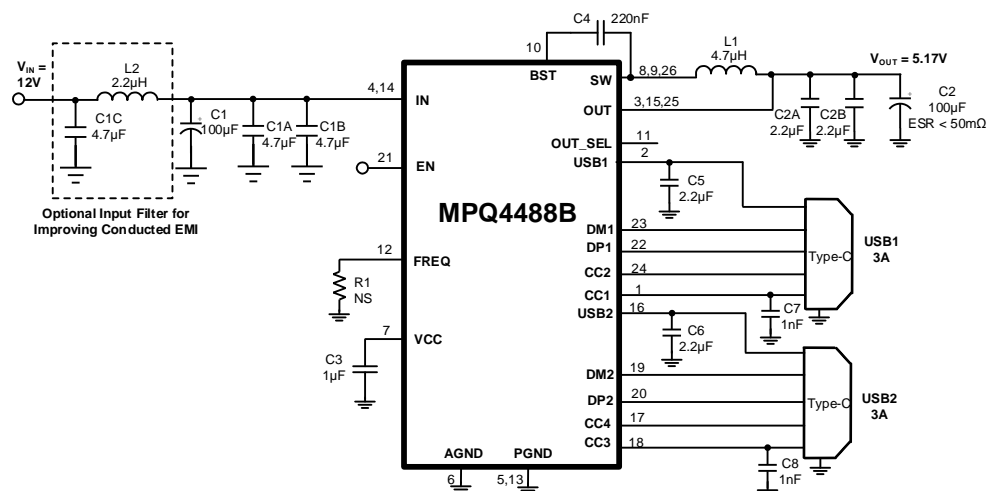
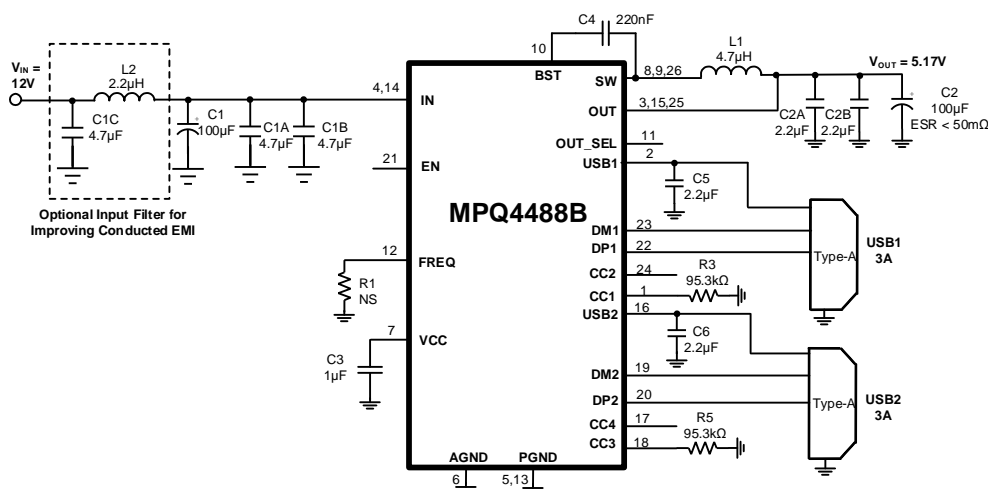
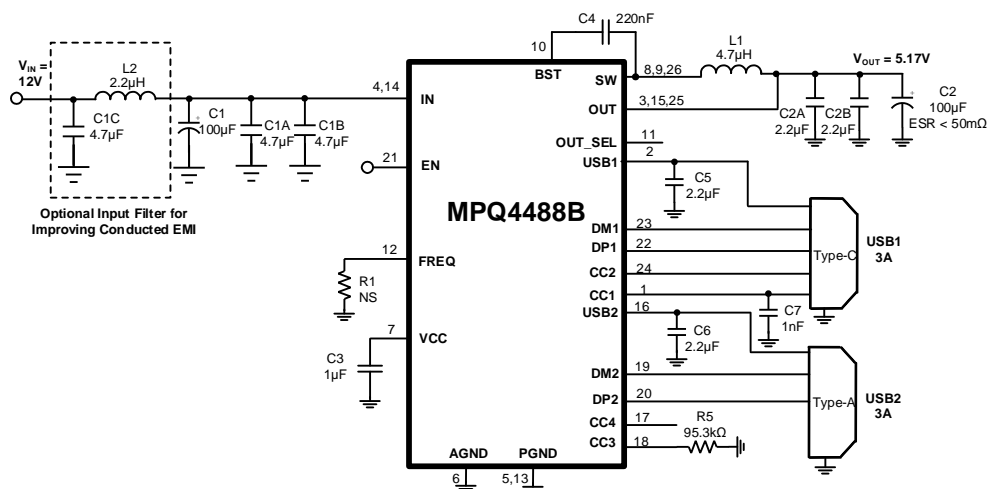

Figure 12: Dual USB Type-C 5V/3A DFP Ports (15)
Figure 13: Dual USB Type-A 5V/3A Ports (15)
Figure 14: Single USB Type-C 5V/3A DFP Port, Single Type-A 5V/3A Port (15)
- 14) The recommended layout is based on the Typical Application Circuits (see Figure 12, Figure 13, Figure 14, and Figure 15).